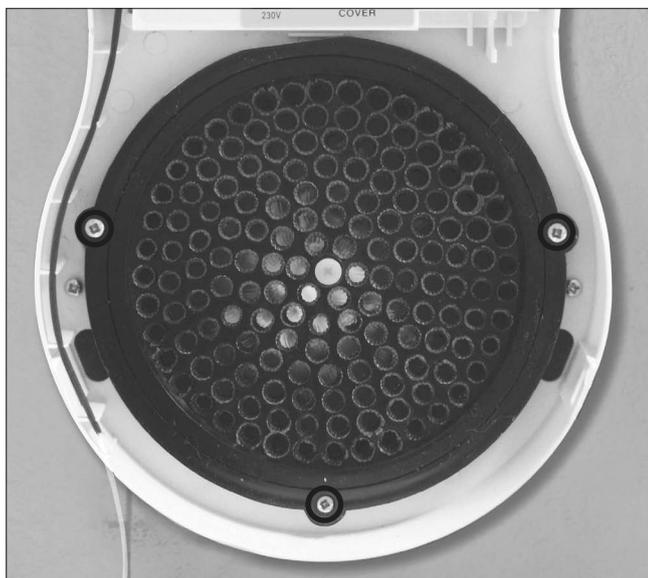

Fig.12A
- 12** Secure the heat cell to the 3 fixing points on the centre assembly using the screws provided (Fig.12A).